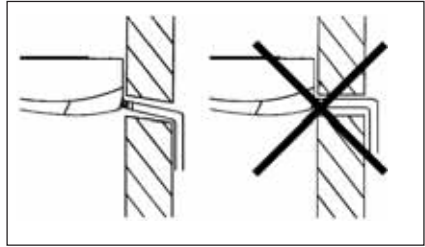

Fig. 14 - Drainage inclination
- a) Ensure that the unit is level, with a **slight inclination towards the drainage side** - approximately 2° (Fig. 14).